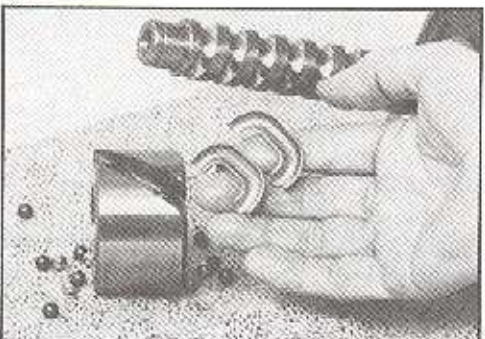

Figure 74
28. Then remove the tape or clip, the ball return guides (25F) and the balance of balls (25D, 25E) from the ball nut (25C). SEE FIGURE 74.